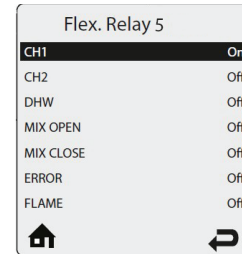

Fig. 16: Flex. Relay 1 Settings
9. Once the Relay's actions have been selected, scroll down and hit enter on the **Save and Exit** option at the bottom. This relay shown in Fig. 16 is set to turn on the pump wired to the CH1 terminal only for CH1 calls.